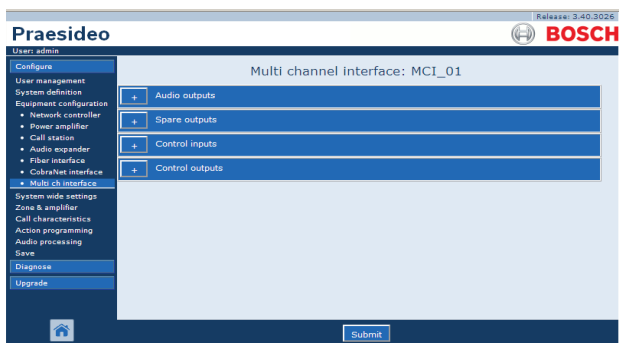

figure 43.40: Configure multi channel interface, step 2
- 2 Click the name of the multi channel interface to be configured. A screen similar to the one in figure 43.40 appears in the main frame of the web interface